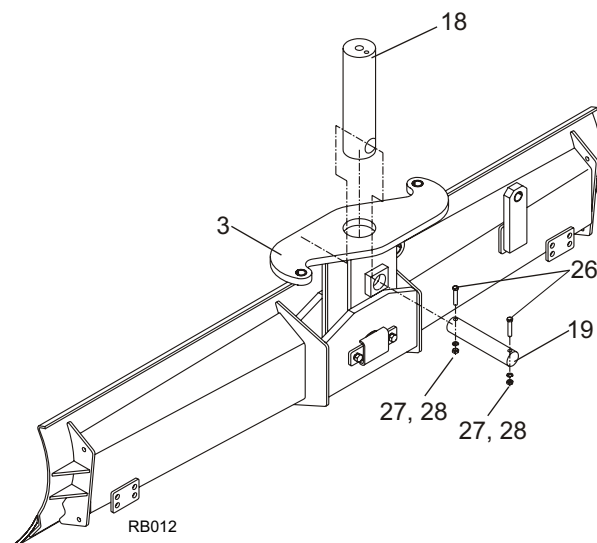

Figure 9. King Pin Installation
B. (Refer to Figure 9). Secure king pin (18) to the turn table (3) by using the king pin retainer (19). Secure using two bolts (26), hex nuts (27), and lock washers (28).